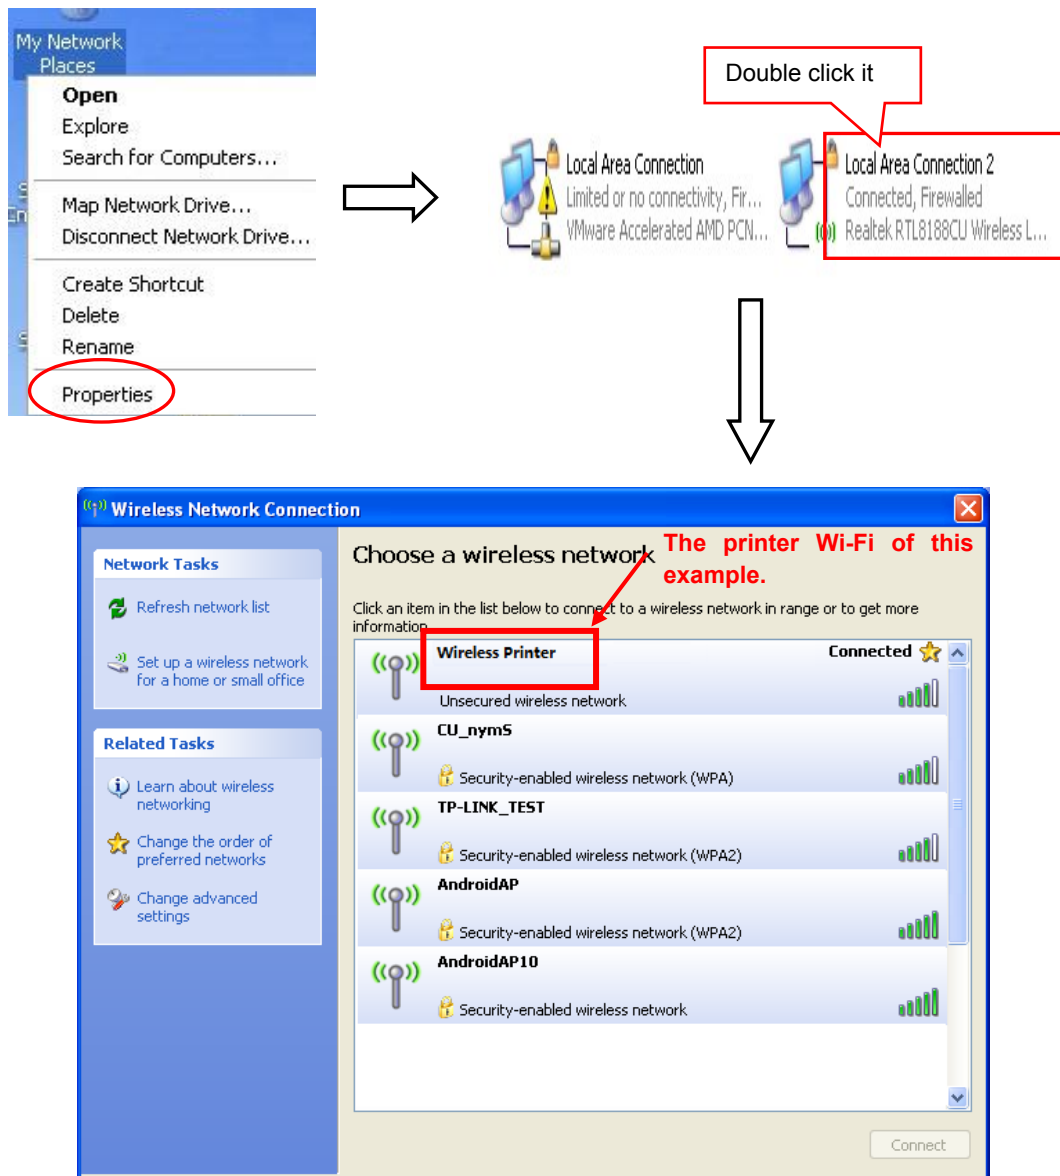

Figure 1
2. Right click "My Network Places", and then click "Properties" to find the "Local Area Connection 2". Double click it and the window of "Wireless Network Connection" pops up, select and double click the corresponding printer Wi-Fi name. The printer Wi-Fi default name is composed of "the printer model+10 SN numbers" (as shown in Figure 1)